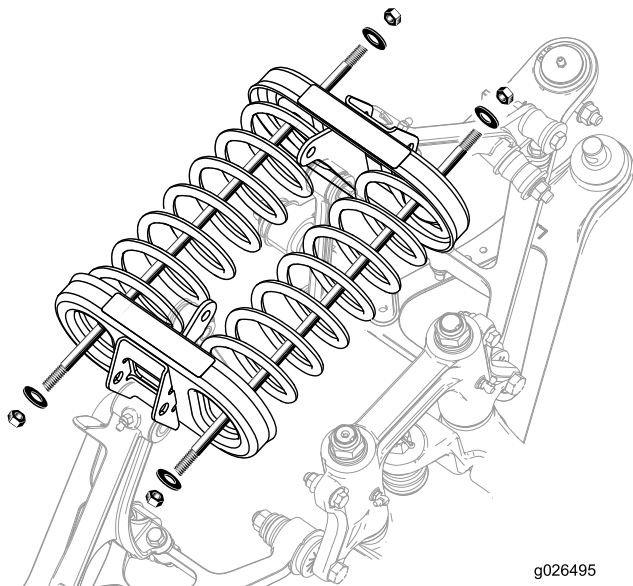

Figure 19
3. Install the nuts and washers on both ends of the rod (Figure 19).